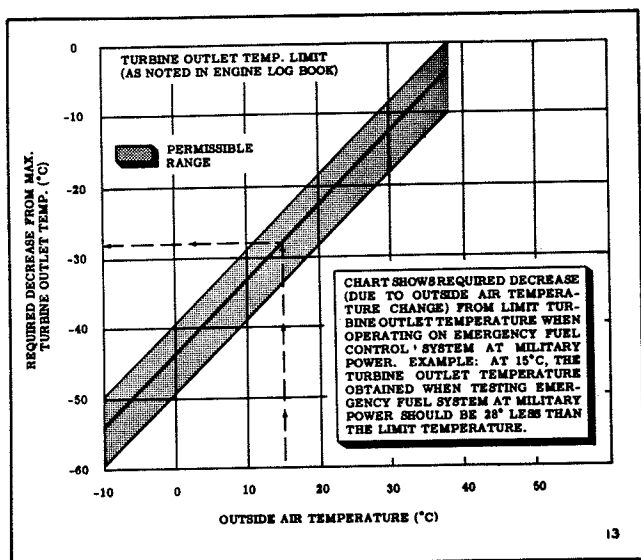

Figure 2-4. Emergency Fuel System Test-Decrease in Turbine Outlet Temperature
- b. If rpm remains same as on primary, advance throttle slowly to MILITARY. Check that 100% rpm is obtained and turbine outlet temperature is within limits shown in figure 2-4.
If 100% rpm and the temperature shown in figure 2-4 are not obtained, do not attempt a take-off as the engine may not deliver full thrust.